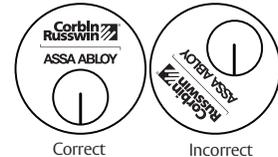

Figure 25
- Corbin Russwin logo must be horizontal and on top. (Figure 25)